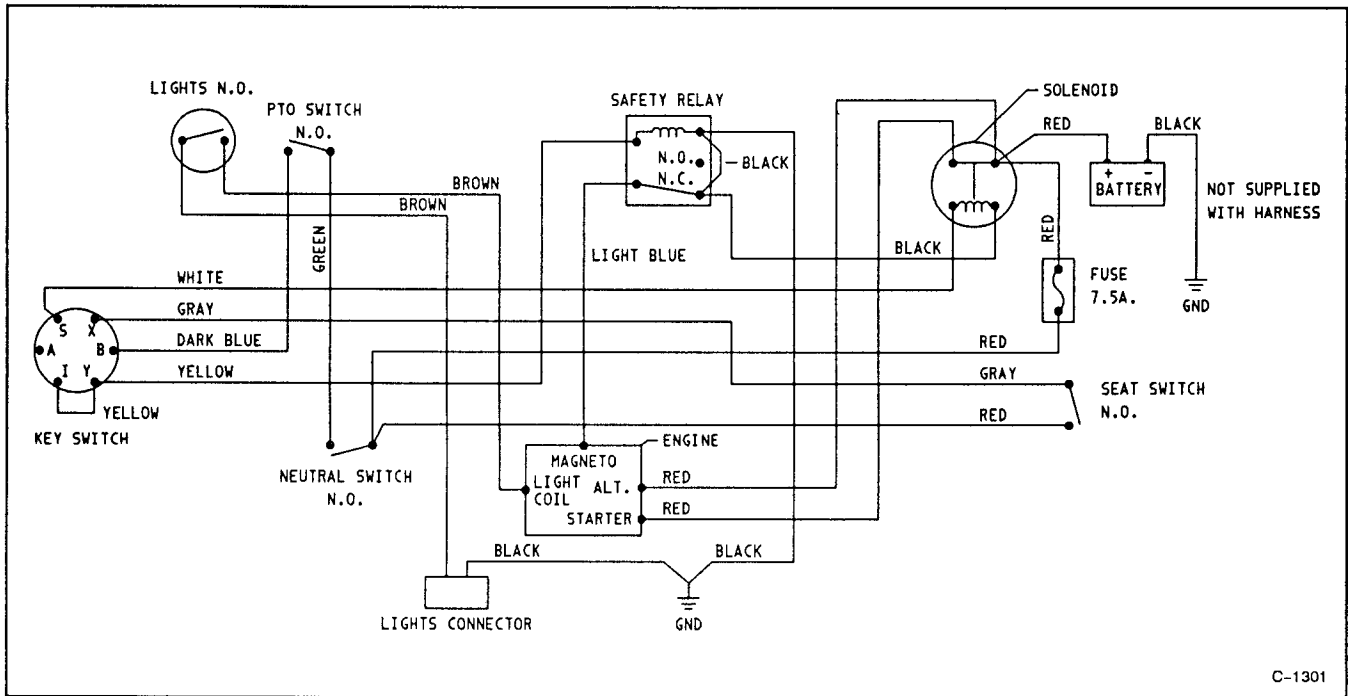

**Figure 16**
The brake is on the right side of the rear axle, inside the rear tire (Fig. 16). If the parking brake does not hold securely, an adjustment is required.
3. To adjust the brake loosen the brake adjusting nut slightly (Fig. 16).
4. Carefully insert a 0.020" (5.08 mm) feeler gauge between the two outer brake pads (Fig. 16).